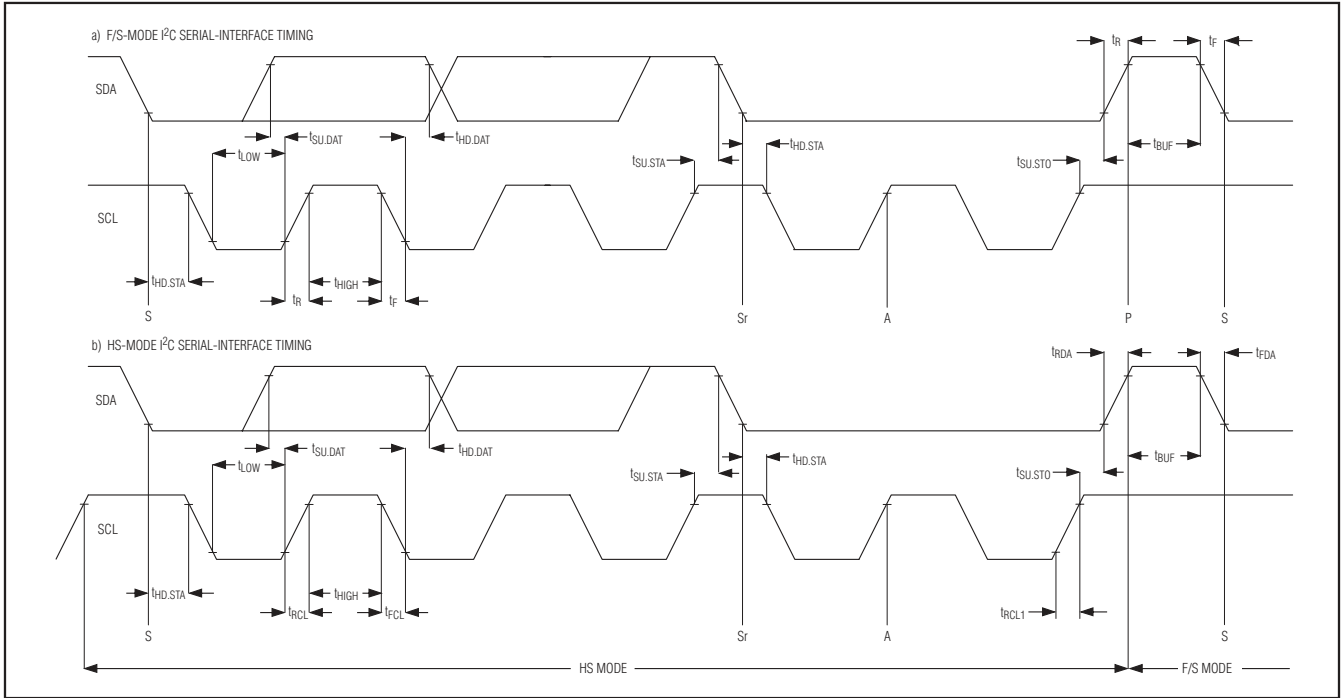

Figure 1. I2C Serial-Interface Timing
**Note 12:** A master device must provide a data hold time for SDA (referred to VIL of SCL) to bridge the undefined region of SCL's falling edge (Figure 1).
At power-up, the MAX11600–MAX11605 bus timing defaults to fast mode (F/S mode), allowing conversion rates up to 44ksps. The MAX11600–MAX11605 must operate in high-speed mode (HS mode) to achieve conversion rates up to 188ksps. Figure 1 shows the bus timing for the MAX11600–MAX11605 2-wire interface.